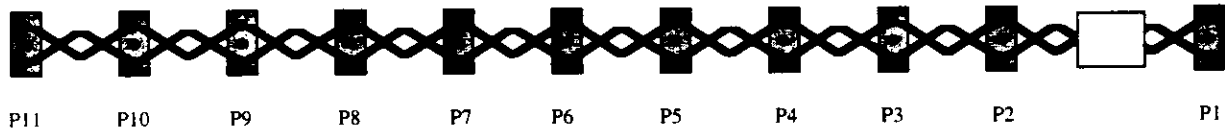

Figure 2-12. Lower Communication harness 8303735G1
- b. Connect P3 of the 8303718G1 cable to P1 of the Lower Communication harness 8303735G1 (Figure 2-12).